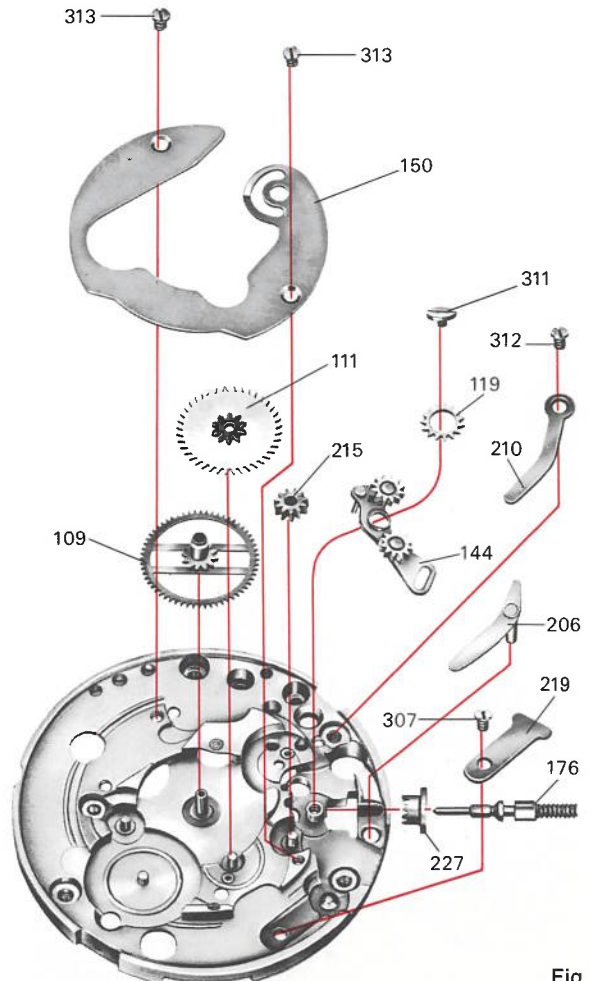

Fig. 27
- A. Remove setting cover (150), minute wheel (111), cannon pinion with its wheel (109), setting wheel for minute wheel (215), setting lever pressure spring (210), setting lever spring (219), setting stem (176), setting lever (206), setting pinion (227), rocking bar assembly (144), large setting wheel (119) and screw (311). (Fig. 27).